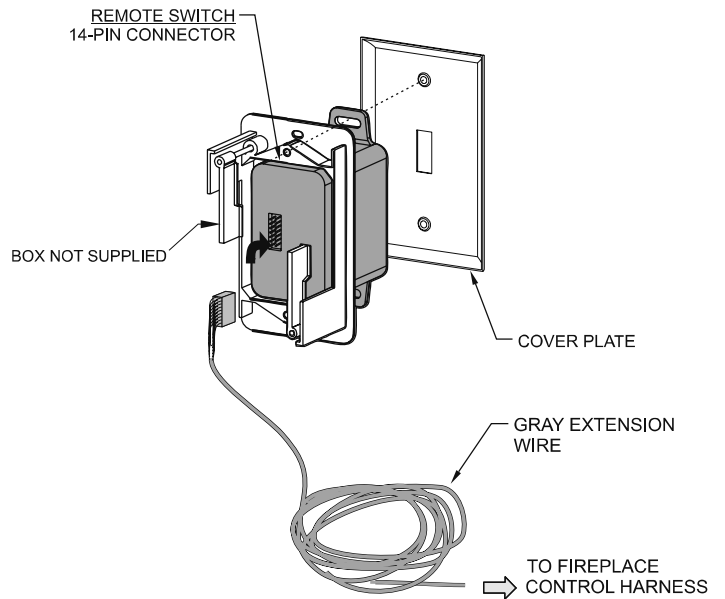

Figure 34
15. Route the gray remote receiver harness through the bushing. Mount the controls and connect the wiring. Secure wiring to stud. **See Figure 34.**